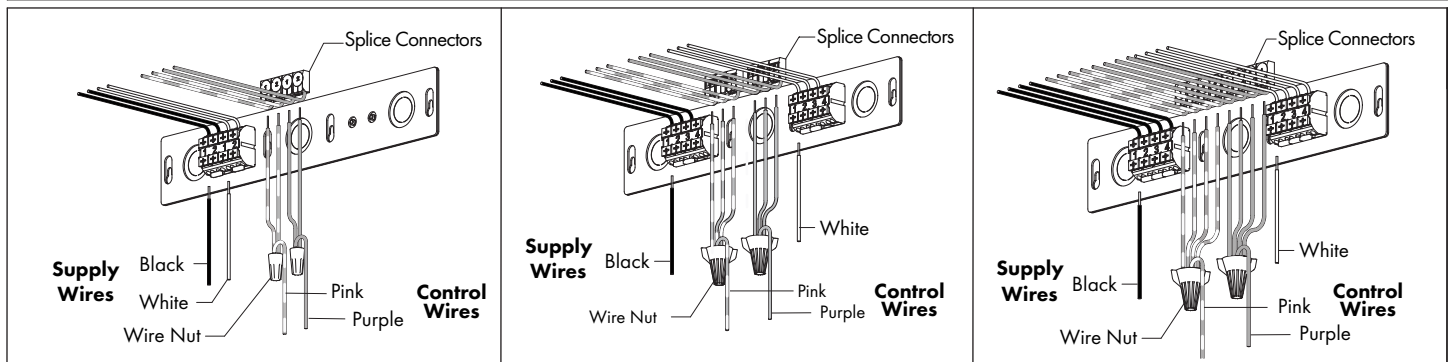

FIG 23.2 Attach Supply & Control Wires
STEP 2 Make wire connections noting individual lamp circuit numbers - **FIG 23.2 & 23.3**.